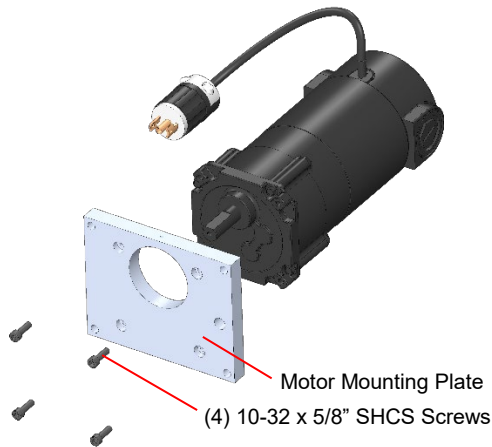

Figure 8. Install Motor Mount and (4) 10-32 x 5/8" Screws
2. Install new Motor Mounting Plate by installing and tightening (4) 10-32 x 5/8" SHCS screws to new Motor (Figure 8).